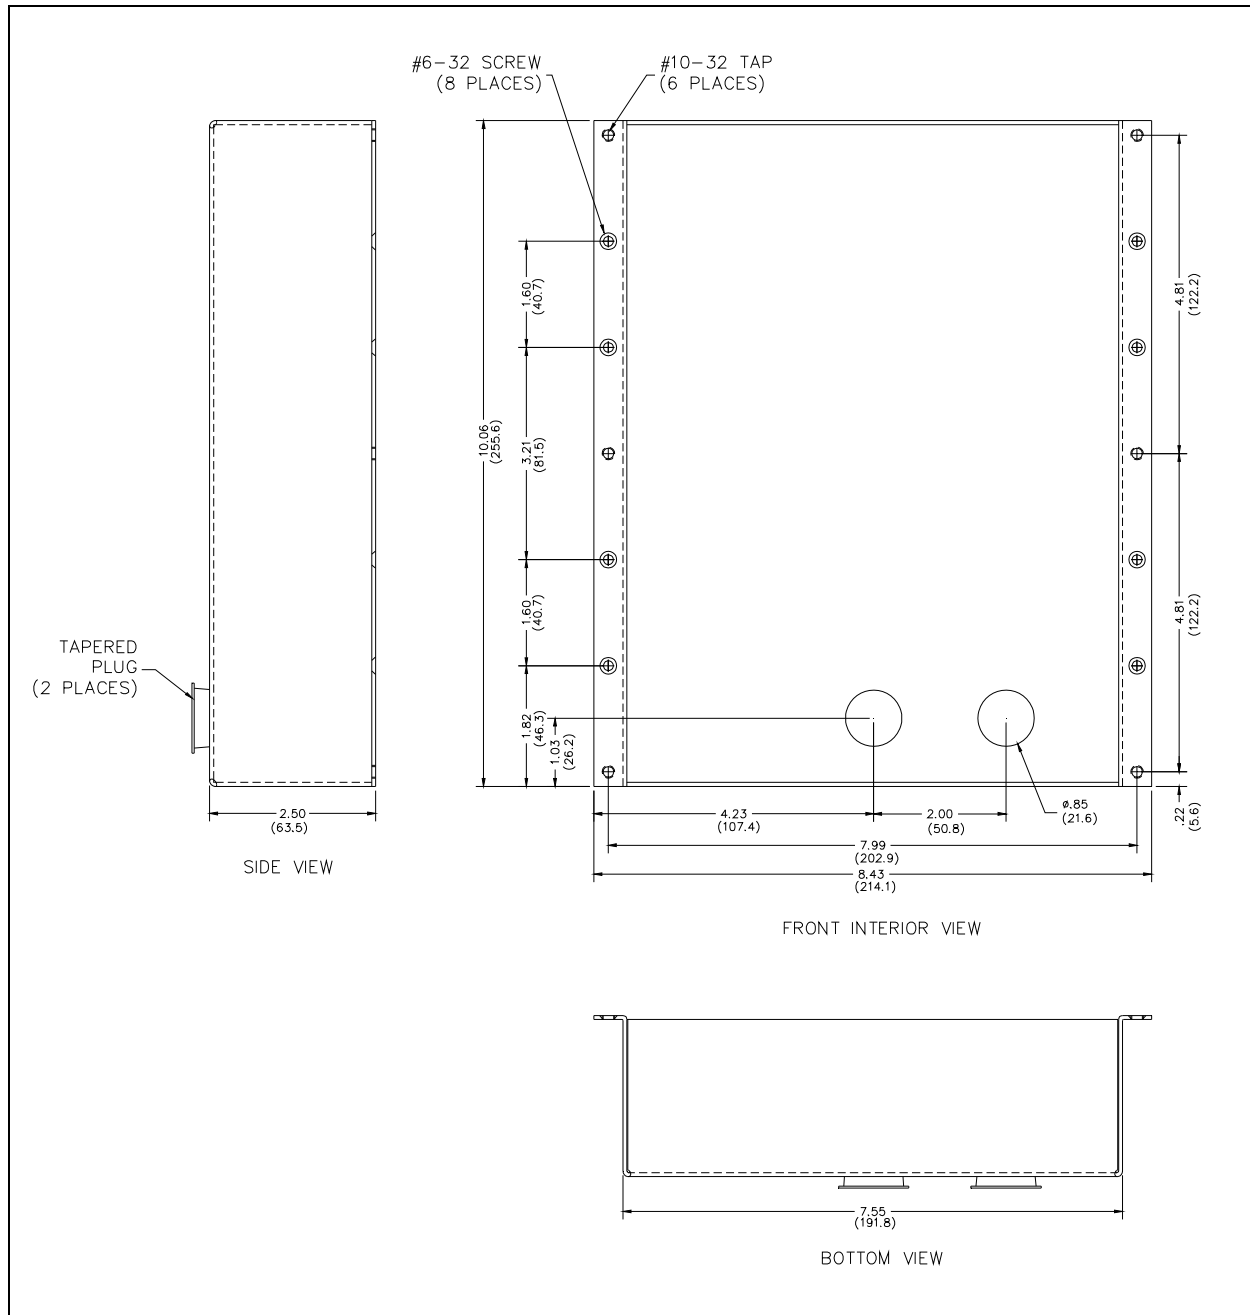

Figure 15. Flush-Mount VoIP Telephone Mounting Details
1. Use the supplied back box to mount the Model 397-700, 397-701, 398-701 and 398-702 VoIP Telephones in flush-mount applications or in a GAI-Tronics Model 234 Series Stanchion. Mount the back box to the structure using the appropriate hardware. Refer to Figure 15 cutout dimensions.